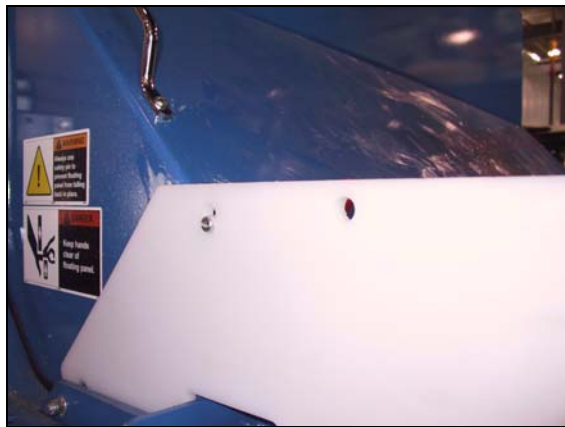

Figure 28. Holes used to hold the panel in place
19. Push the floating panel towards the front of the vehicle, and secure the panel using the lock handle (see Figure 28. “Holes used to hold the panel in place”).